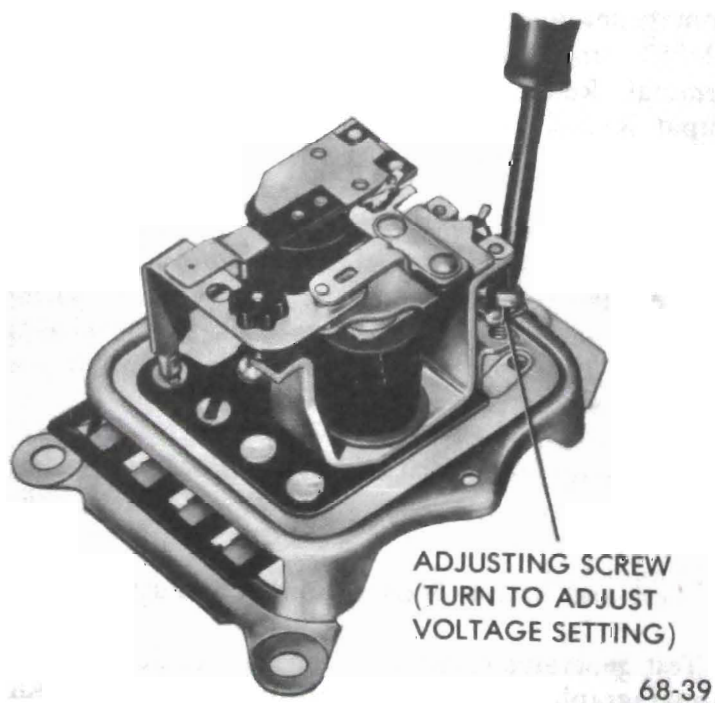

Figure 68-39 - Adjusting Voltage Regulator Setting
5. Reinstall connector to regulator. Adjust voltage regulator to 14 volts. To increase voltage setting, increase spring tension; to decrease voltage setting, decrease spring tension. Always make final adjustment by increasing spring tension to assure contact between adjusting screw head and spring support. See Figure 68-39.